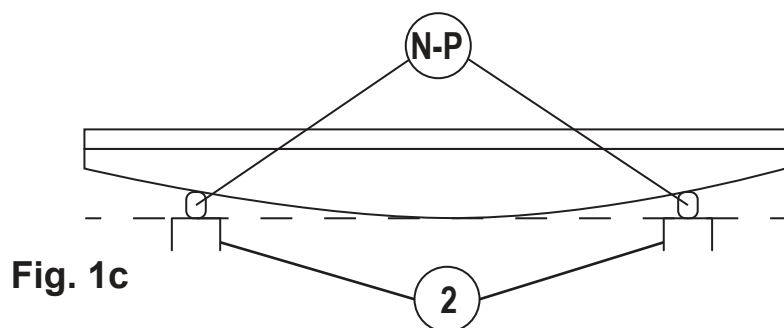
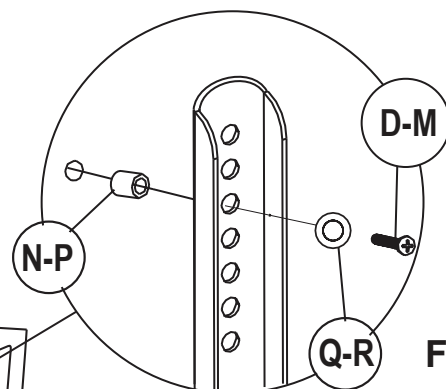

Fig. 1c
Fig. 1d
If your television has a curved back, and the mounting holes are recessed (Fig 1c) spacers are required. Install the proper size **Spacers (N-P)** between the TV rear and the bracket structure as shown in Fig 1e. to make sure the **Brackets (2)** extend past the rounded portion of the TV. Then use the selected **Bolts (D-M)**, **Washers (Q-R)**, and the **Allen Wrench (4)** to attach the bracket structure (with the spacers between the bracket and the TV) to the TV as shown in Fig 1d. Make sure the bracket structure is properly aligned on the rear of the TV and securely tighten the bolts. Do not over tighten.